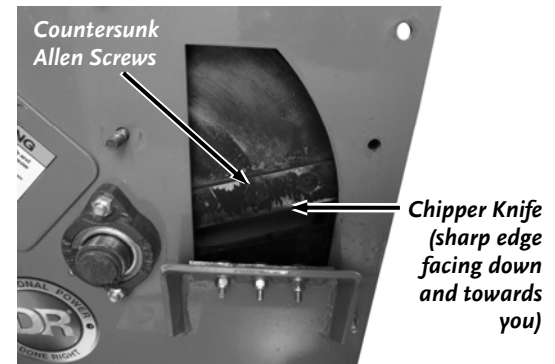

**Figure 32**
4. Rotate the Flywheel using a long stick until the three countersunk Allen Screws and Lock Nuts attaching the Knife to the Flywheel are visible through the Access Cover and Hopper openings (**Figure 32 and 33**).